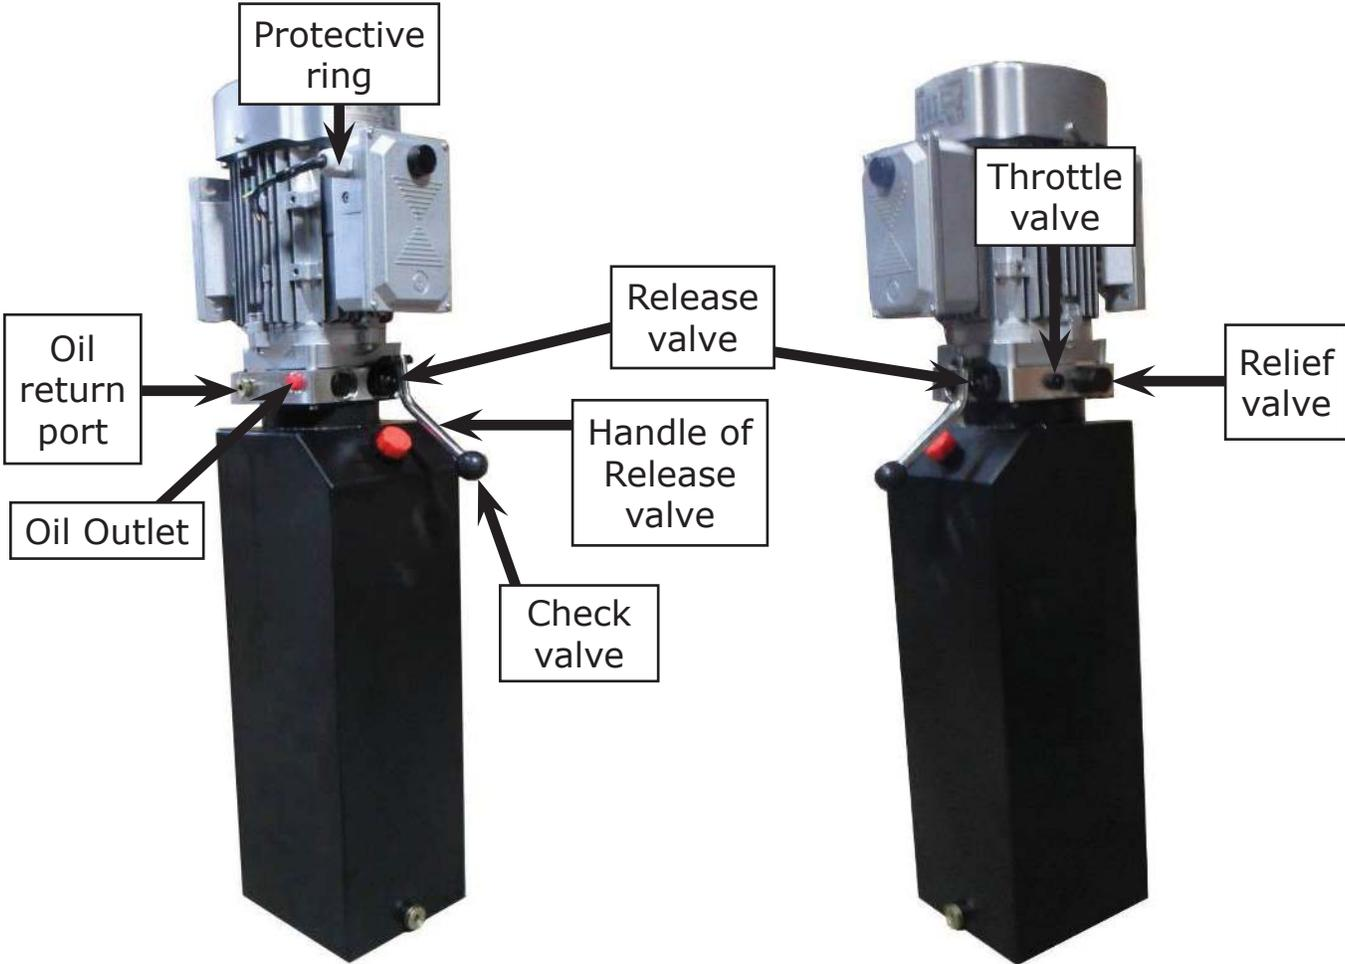

Fig. 47
b. Atlas manual power unit, 380V/50HZ, Three phase (See Fig. 47)